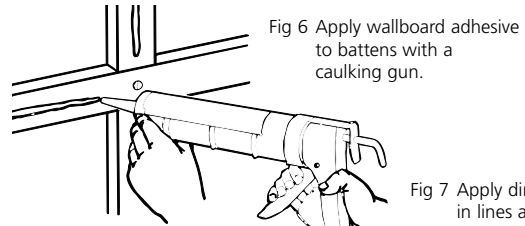

Fig 6 Apply wallboard adhesive to battens with a caulking gun.
- Apply a line of wallboard adhesive to enough battens for a single sheet using a caulking gun (see Fig 6).